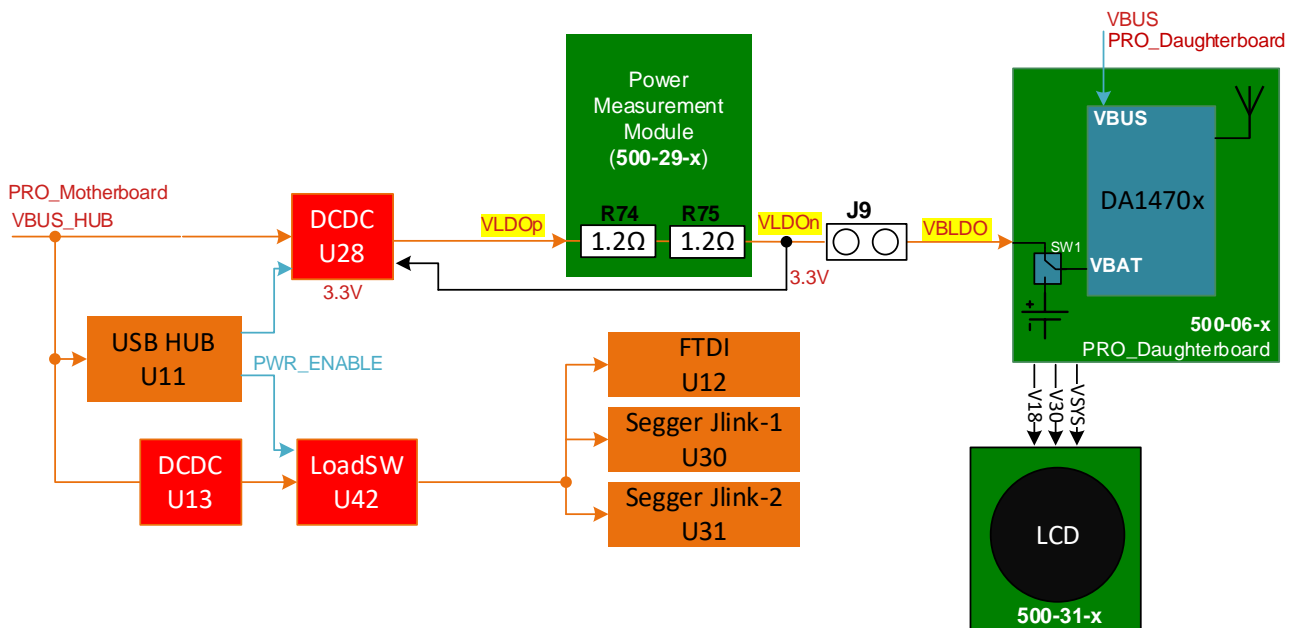

Figure 29: Power Configuration Applied on PRO-Motherboard
The power structure of the PRO-Motherboard (shown in Figure 29) contains two high efficient adjustable 1A DCDC step down converters, the U28 (TPS62250DRVR) and the U13 (AP61100Z6-7). Both are fed from the USB connector 5 V supply (VBUS_HUB). There is one DCDC allocated per supply domain, meaning that there is a dedicated DCDC converter (U28) accompanied with a LDO (U5) for VLDOp voltage generation that passes through the current measurement circuitry and then eventually becoming the VBLDO input supply on the daughterboard section. Note that on PRO-Daughterboard, the VBLDO is connected to the VBAT through switch SW1.
As shown in Figure 29, the USB of PRO-Motherboard supplies all supporting circuits as well as the DCDC converter (U28) which in turn supplies PRO-Daughterboard.
- 2.4 ohm in series to VLDO (located on DA1470x-sb-pmm2, see Figure 29)